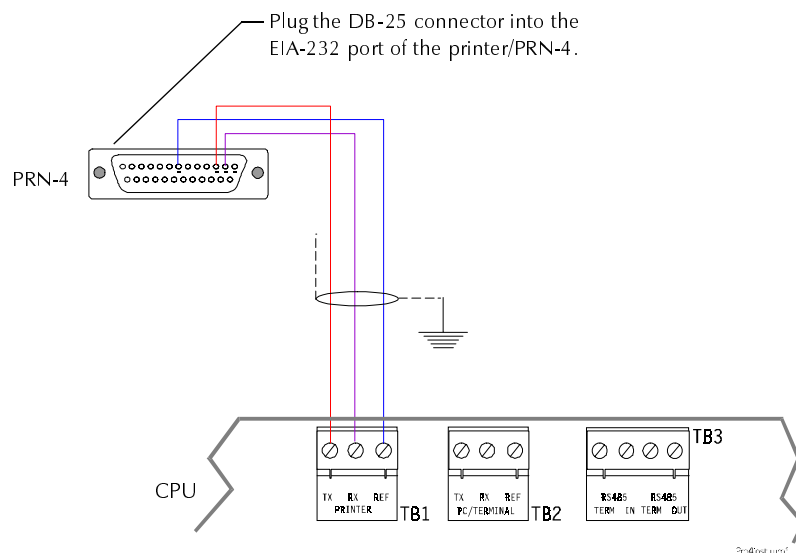

Figure 2-50 Remote Printer Connections
2. Connect the cable between the CPU and the PRN-4 through an EIA-232 interface as shown in Figure 2-50: